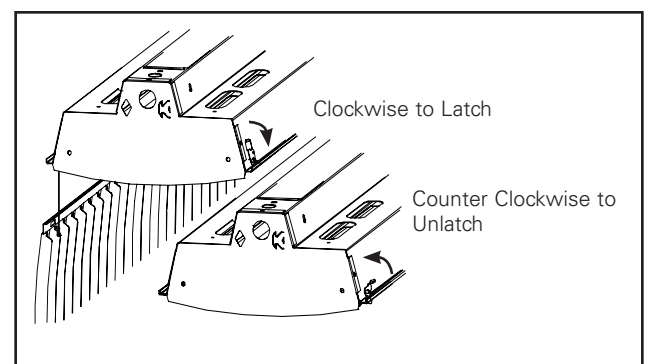

Figure 1.
1. Rotate all latches counter clockwise (Figure 1.).